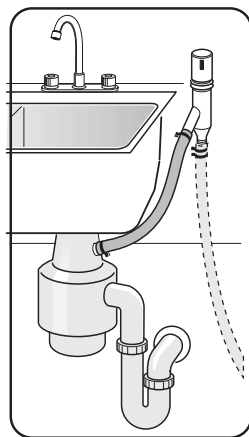

Figure 26
- 4 To a disposer dishwasher drain connection through an air gap, as shown on **Figure 26**.